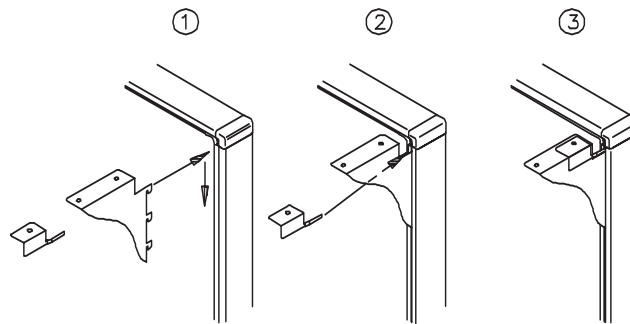

FIG. 1
2. With the top cap still on the panel, insert the right-hand countertop bracket into the panel trimrail so that the top tooth on the bracket is in the top slot of the trimrail. Tap the countertop bracket down with a hammer until it is fully seated (Figure 1 - Step 1).
3. Slide a right-hand countertop lock bracket into the remaining space in the top trimrail slot while holding the lock bracket (Figure 1 - Step 2). When lock bracket is fully installed, the holes should line up on both brackets (Figure 1 - Step 3).
1. On the side opposite the worksurface (outside the workstation), mount the ADA outer countertop brackets to the panel trimrail grooves so that mounting flanges are at the same height as panel top. The right and left brackets will be different. Notice that the mounting flanges face inward as installed to the panel (Figure 1).
2. Mount the ADA inner countertop brackets to the panel trimrail grooves at the same height as the outer brackets but on the side that the worksurface will be installed on (inside the workstation). Orient these also with the mounting flange facing inward. (Figure 1).